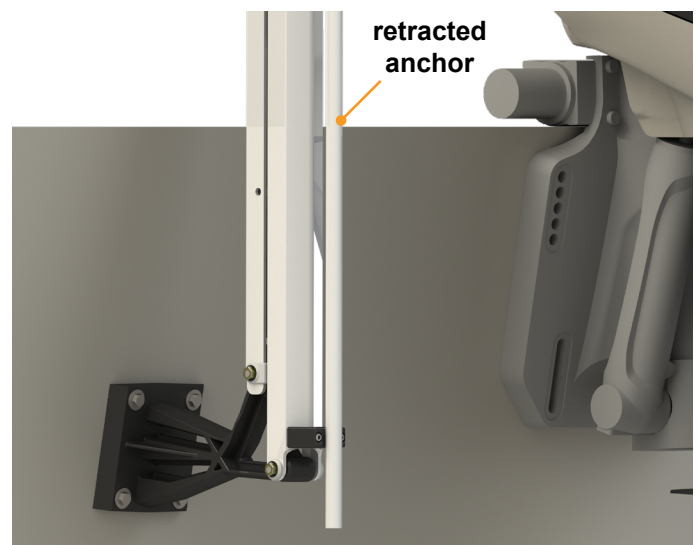

Fig.9
5. Using straps or some other type of cordage, firmly secure the anchor in its upright, stored position (Fig.9) before going underway.